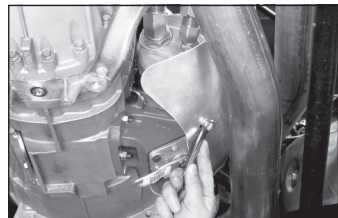

Fig. 23
25. Install P.T.O. Heat Shield (379847) to the P.T.O. (Fig. 23). The heat shield is attached to the closed bearing cap by re-installing capscrew (378430-10) to the bearing cap and hex capscrew (378430-8) to the heat shield support bracket. Torque 378430-10 to 16-20 lbs. ft. [22-27 N.m].